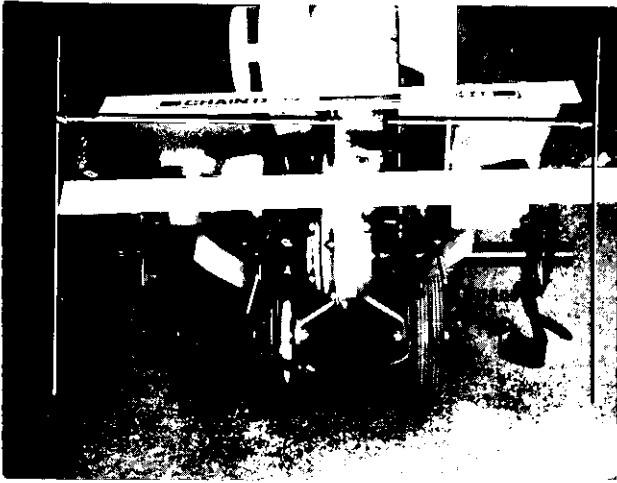

FIGURE 29.
Tilling width can be increased from 26 inches to 28 inches by removing the clevis pin and hair pin cotter and sliding the outer tines out one (1) inch, and replacing the clevis pin and hair pin cotter. See figure 29.